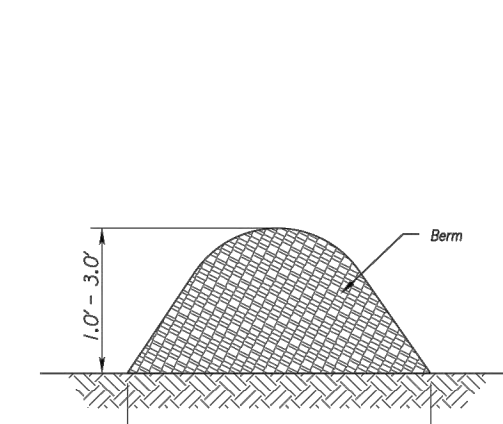

Figure 1
2. Parallel to the base of the slope, or around the perimeter of other affected areas, construct a 1 to 3 foot wide to 1 to 3 foot high berm (see Figure 1) for maximum water treatment ability or for steep slopes, construct a 1.5 to 3 foot high trapezoidal berm that is 1 to 3 feet wide at the top and 1 to 2 feet wide at the base. In extreme conditions, or where specified by the engineer, a second berm shall be constructed at the top of the first. Engineer will specify berm requirements.